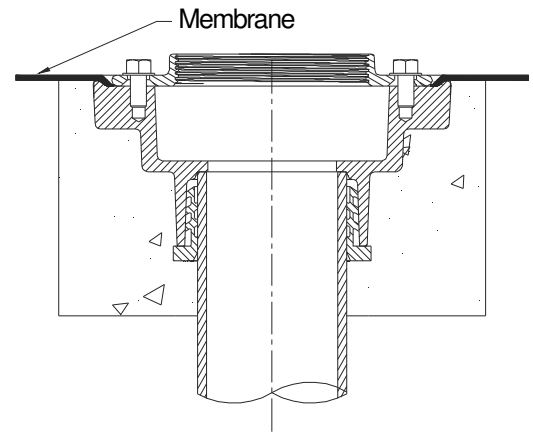

Fig. 4
4. Install the waterproofing membrane per the manufacturers instructions. See Fig. 4